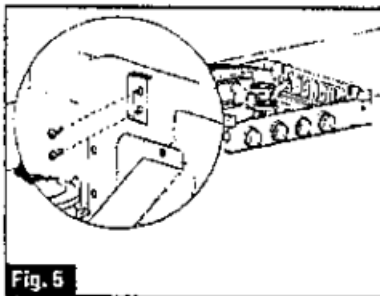

Fig. 5
5. Use four tapping screws on both left and right to secure the hob (Fig. 5)